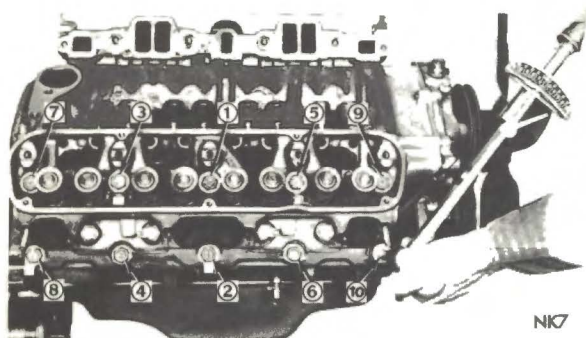

Fig. 2 Cylinder Head Tightening Sequence
(1) Inspect all surfaces with a straight-edge if there is any reason to suspect leakage.
(2) Coat the new gaskets with a suitable sealer.
(3) Remove the cylinder heads from the holding fixtures Tool C-3626 and install on the engine.
(4) Install and tighten all head bolts starting at top centre, to 85 lbs/ft using the torque sequence, as shown in Fig. 2. Repeat the procedure, retightening all head bolts to 85 lbs/ft. torque.
(5) Install the small end of the push rods in the tappets.
(6) Install the rocker arm and shaft assembly starting each push rod into its respective rocker arm socket making sure to install the long stamped steel retainers in the number two and four positions.
(7) Coat the intake manifold gaskets